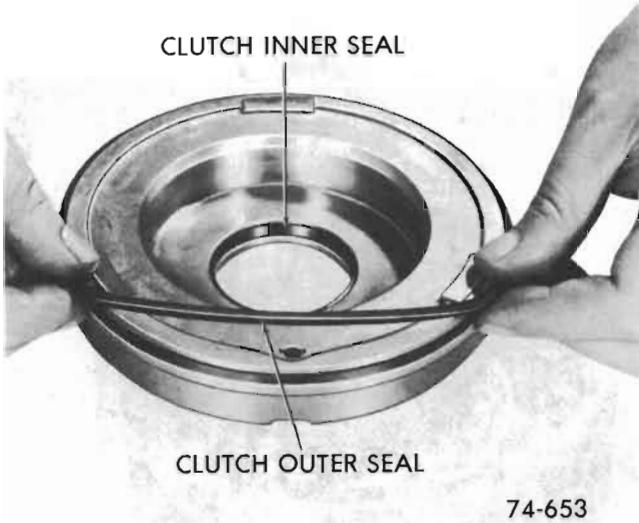

Figure 76-183
9. Remove inner and outer clutch piston seals. See Figure 76-183.
1. Place new inner, and outer oil seals on clutch piston, lips face away from spring pockets. See Figure 76-183.